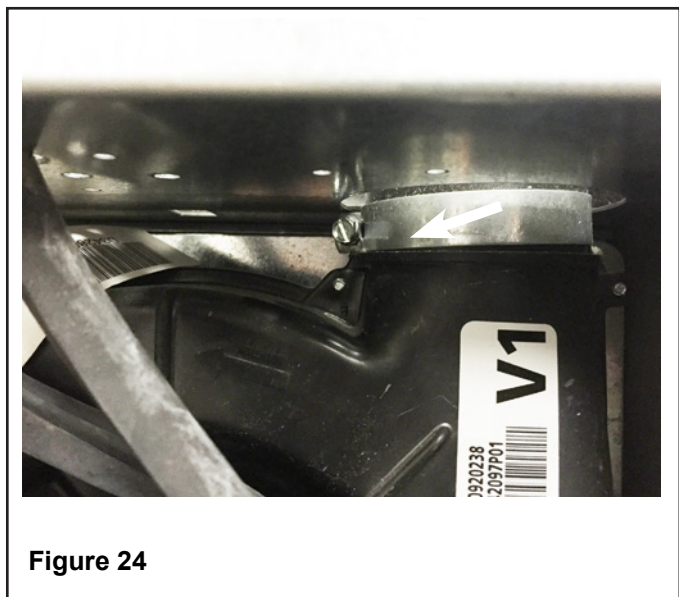

Figure 24
Step 33. Disconnect the fresh air intake and exhaust vent pipes from the furnaces. Remove the screws from the furnace exhaust pipe. Loosen the hose clamp for the connection of the flue pipe to the draft inducer. See Figure 24. Remove the flue pipe and retain.